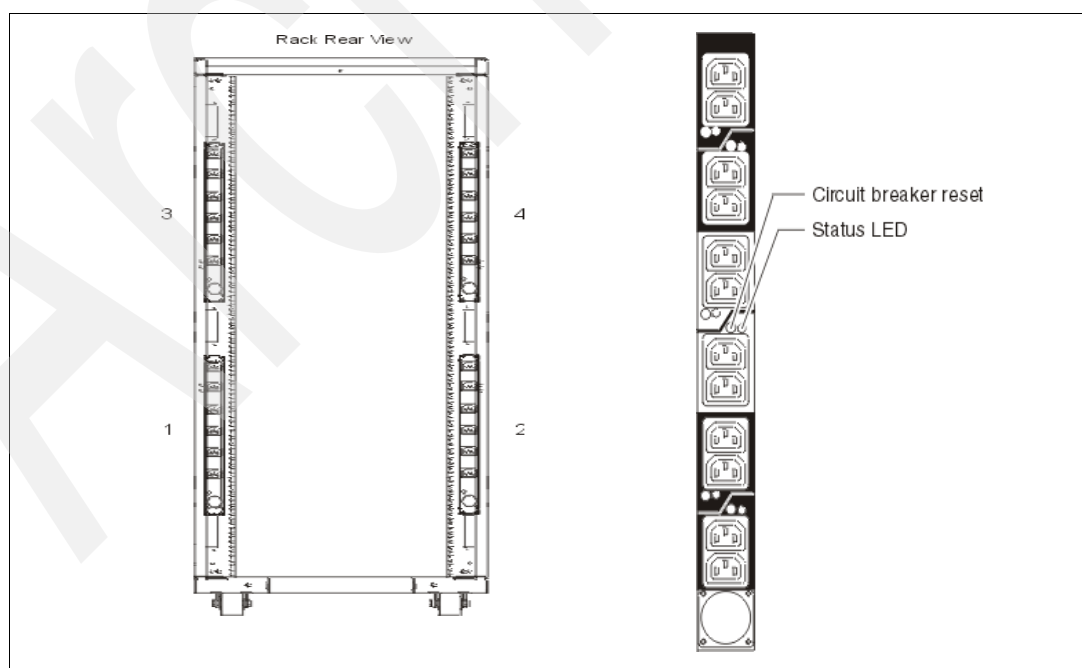

Figure 1-4 PDU placement and PDU view
- ▶ Up to four power distribution units (PDUs) can be mounted in the PDU bays (see Figure 1-4 on page 17); additional PDUs can fit inside the rack. See 1.5.6, “The ac power distribution unit and rack content” on page 16.
Four PDUs can be mounted vertically in the T00 and T42 racks. See Figure 1-4 on page 17 for the placement of the four vertically mounted PDUs. In the rear of the rack, two additional PDUs can be installed horizontally in the T00 rack and three in the T42 rack. The four vertical mounting locations will be filled first in the T00 and T42 racks. Mounting PDUs horizontally consumes 1U per PDU and reduces the space available for other racked components. When mounting PDUs horizontally, we recommend that you use fillers in the EIA units occupied by these PDUs to facilitate proper air flow and ventilation in the rack.